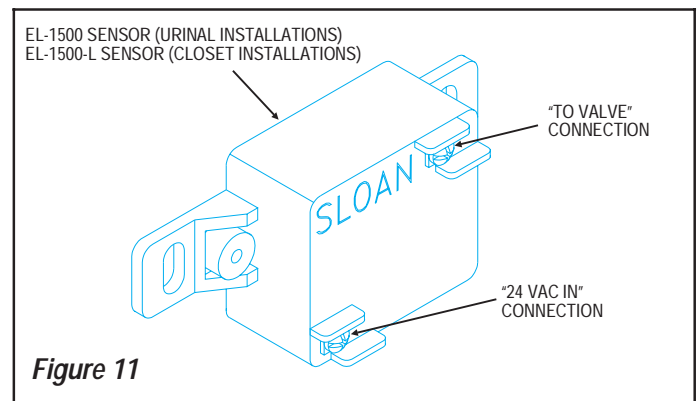

Figure 11
- Connect 24 volt source lead to terminal labeled “24 VAC IN” of sensor shown in Figure 11.
- Connect solenoid lead to terminal labeled “TO VALVE” of sensor shown in Figure 11.